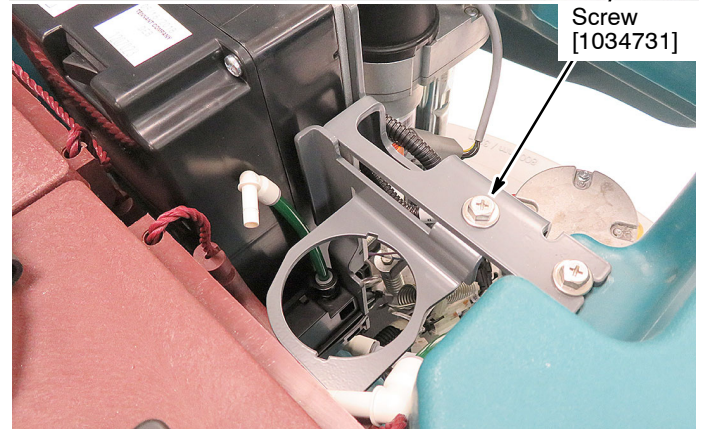

Fig. 8
- 7. Mount the pre-assembled water conditioning module assembly [9016704] to the machine bracket using screw as shown (Figure 8).